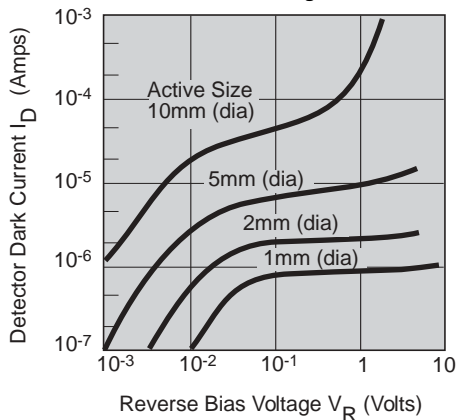

Figure 5-4
2. **Active Area:** Larger active areas have lower shunt resistance R_D (Fig. 5-4), and therefore higher dark currents. When low noise is critical, the smallest detector acceptable for the application should be selected. Focusing optics may be added for increased light collection.